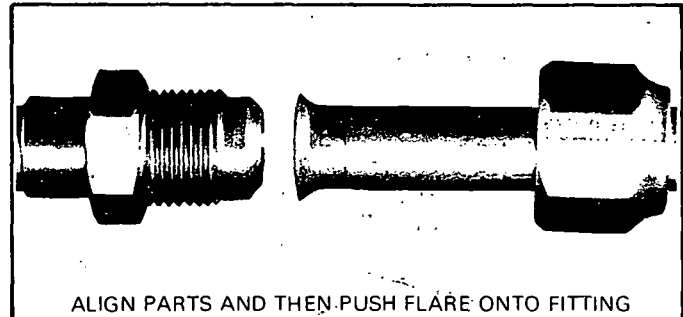
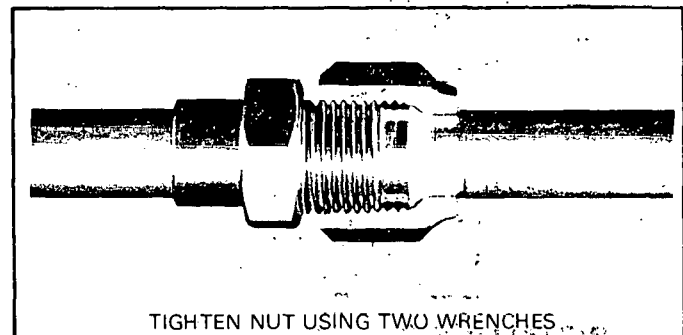

FIGURE 11
FIGURE 12
- d - Align parts as shown in Figure 11 and tighten using two wrenches to prevent twisting lines. Figure 12 shows cutaway of flared connections.